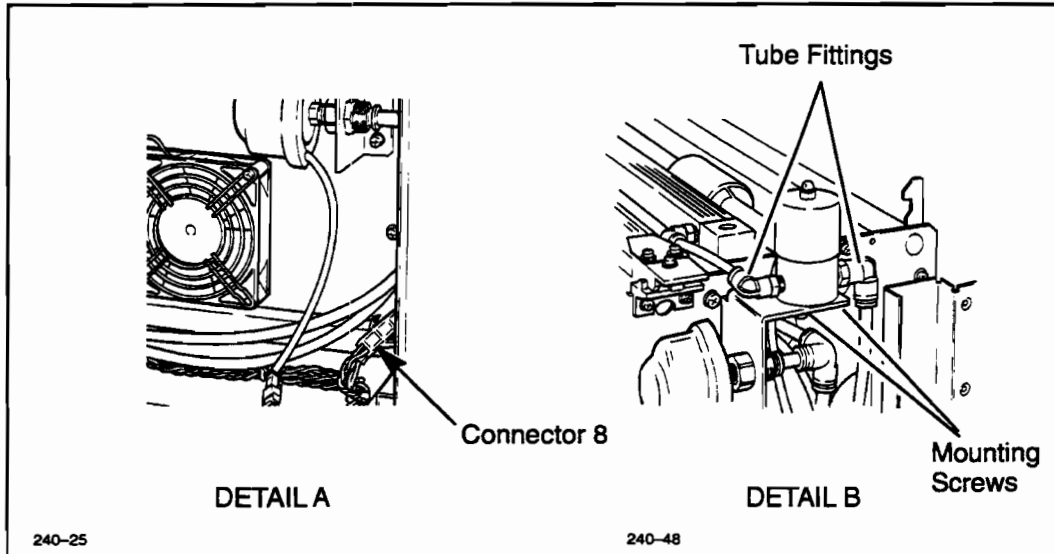

Figure 6-59. Solenoid Valve Removal
5. Disconnect the solenoid valve cable at Connector 8 located below the switch. See Figure 6-59, Detail A.
6. Remove the toner tubes from the tube fittings at the front and rear of the solenoid valve. See Figure 6-59, Detail B.